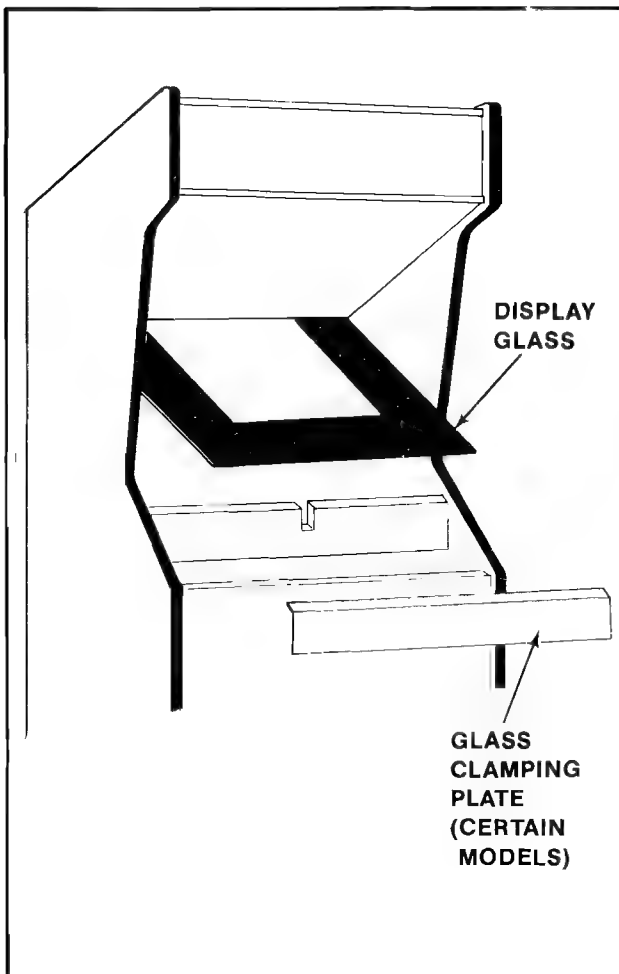

Figure 3-5 Removing the Main Display Glass & T.V. Bezel — Upright
1. UPRIGHT MODEL: See Figure 3-5.
- ☐ Remove the screws securing the main-display-glass retainer and the main-display-glass in place as shown in Figure 3-5 and lift out the main-display-glass. (Certain models only.)